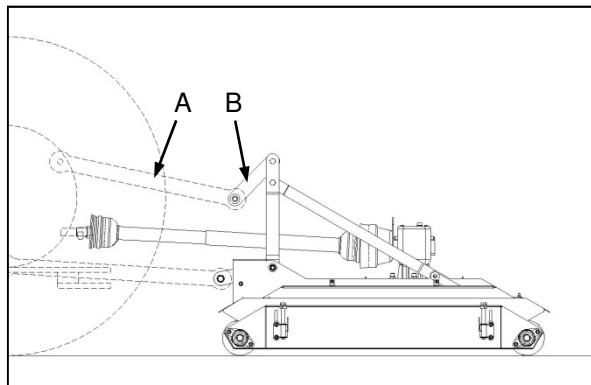

Fig. 1
- ✓ With the implement in the working position, the tractor 3-point hitch top link length should be adjusted (Fig. 1-A) to allow the flexible link (Fig. 1-B) to assume an angle of approx. 45 degrees.
- ✓ Met die implement in die werksposisie, verstel die lengte van die trekker se 3-punt-boskakel (Fig. 1-A) sodat die floterings skakel (Fig. 1-B) in omtrent 'n 45 grade-posisie is.